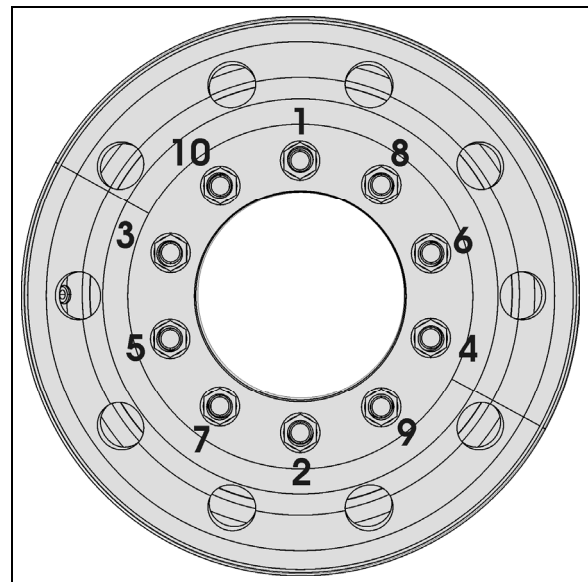

FIGURE 2: TIGHTENING SEQUENCE 13018
It is also important that wheel stud nuts be tightened alternately on opposite sides of the wheel. Refer to Figure 2 for the suggested tightening sequence.
Tighten stud nuts progressively as shown in Figure 2. The final tightening should be done with a torque wrench. Tighten stud nuts to 475±25 lbf-ft (645±35 Nm) for aluminum as well as steel wheels.
2. Screw in the hex stud nuts (refer to Figure 2 for sequence) so that wheel will position itself concentrically with hub. This is important, otherwise wheel may be eccentric with hub and will not run straight. In this initial step, slightly tighten the nuts to correctly position the wheel;
3. Tighten stud nuts progressively as shown in Figure 2. The final tightening should be done with a torque wrench. Tighten stud nuts to 450 - 500 lbf-ft (610 - 680 Nm) for aluminum as well as steel wheel.